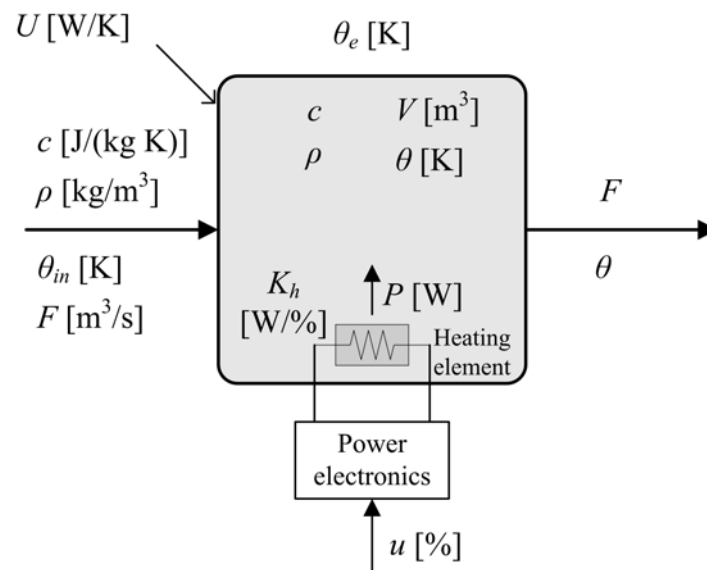

Figure 1: Liquid tank
- Figure 1 shows a liquid tank with continuous liquid inflow and outflow. Homogeneous conditions in the liquid is assumed. A
- (b) (10%) Find the gain, K , and the time-constant, T , of the transfer function Eq. (2).
2. Assume that the tank temperature in Figure 1 is to be controlled by a PI controller. The temperature measurement used by the controller is in unit of K, and the control signal generated by the controller is u in unit of %.
- (b) (10%) Tune the PI controller using the Skogestad tuning method assuming $F = 0$ and $U = 0$ in Eq. (2). (It can be shown that assuming these parameter values for the controller tuning, the control system will be stable for any non-zero values of F and U . In other words, the tuning will be robust, of safe. Thus, the assumption is beneficial.)
- (c) (10%) Assume that the control system also includes feedforward control. Derive a feedforward controller from Eq. (1), assuming for simplicity that $\tau = 0$. Assume that the temperature setpoint is θ_{SP} . Does your feedforward controller require that some variables are measured with sensors to make it (the feedforward controller) implementable? Which variables?